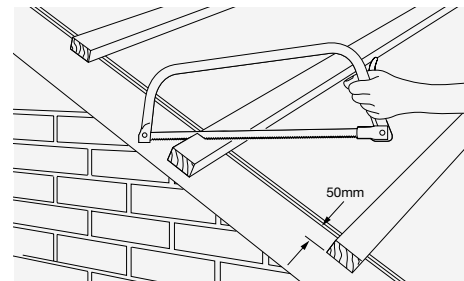

Fig. 1 – Position tiling battens with recommended overhang
- 2 Saw tiling battens off square to overhang bargeboard or brickwork by 50mm and nail (Fig. 1).